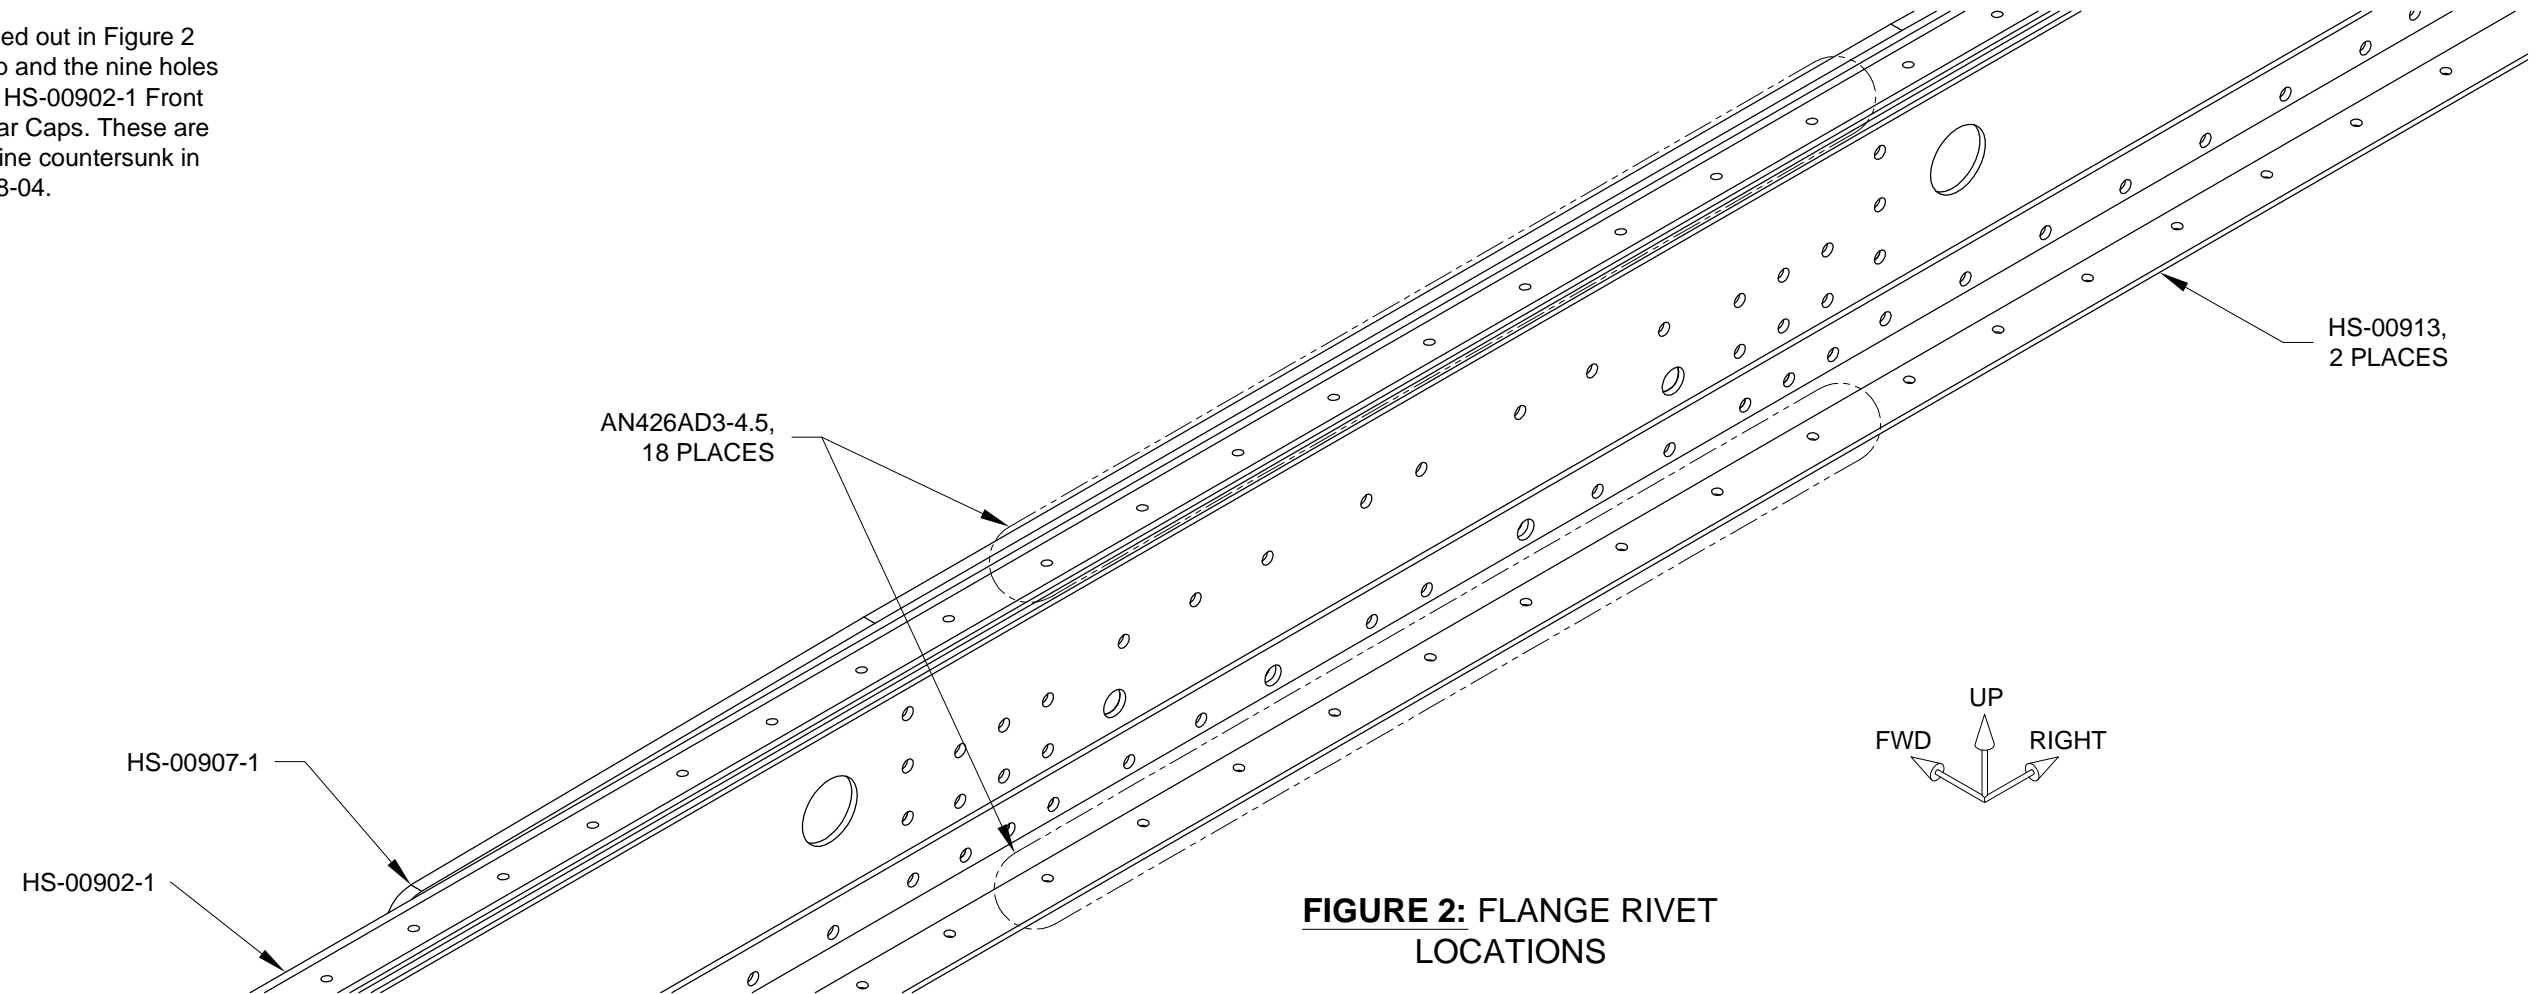

FIGURE 2: FLANGE RIVET LOCATIONS
Step 2: Install the rivets called out in Figure 2 into the nine holes in the top and the nine holes in the bottom flanges of the HS-00902-1 Front Spar and the HS-00913 Spar Caps. These are the holes which were machine countersunk in the spar flanges on Page 08-04.